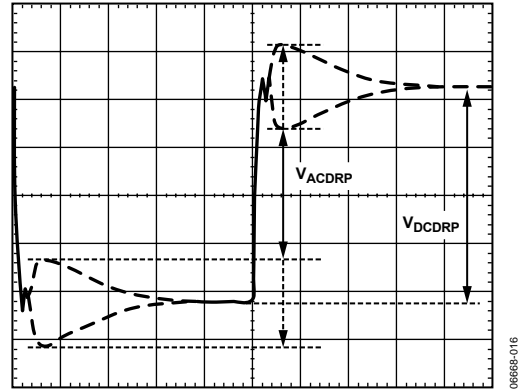

Figure 15. AC Load Line Waveform
14. Measure the output waveform (use dc offset on scope to see the waveform). Try to use a vertical scale of 100 mV/div or finer. This waveform should look similar to Figure 15.
15. Use the horizontal cursors to measure V_{ACDRP} and V_{DCDRP} , as shown in Figure 15. Do not measure the undershoot or overshoot that happens immediately after this step.